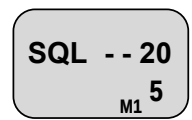

Figure 1
4. Adjust the Squelch by pushing the " **SQL** " softkey, then rotate the tuning dial to desired squelch level (00 - 24). (See Figure 1)